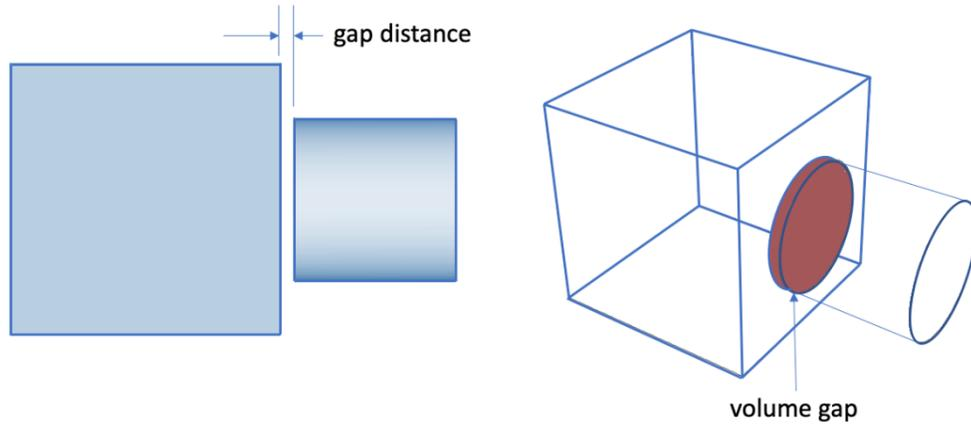

Figure 13. Volume Gap Example
- Volume Gaps** - Lists volume pairs that are separated by a distance smaller than the **Volume Gap** tolerance specified in the Options panel, but are not in contact or overlapping. Gaps can result in parts that are not correctly merged and will not share nodes between volumes when meshed. Expanding a volume pair in the list will display individual surface pairs where gaps exist between the volumes. Figure 13 illustrates a gap between two volumes. Gaps can be visualized using the **Draw Volume Gap** context menu, also shown in Figure 13, where the surfaces that are within the gap tolerance are displayed in red. The tweak surface replace command can sometimes be used to correct overlaps.